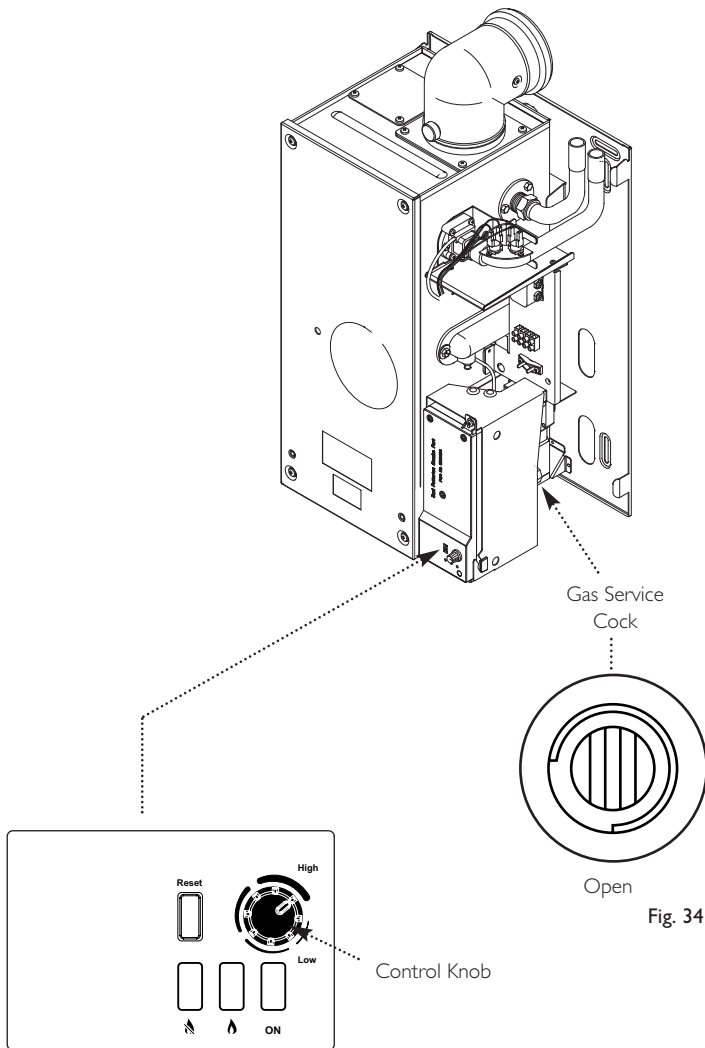

Fig. 35
7. Turn the boiler control knob fully clockwise to 'HIGH' (Fig. 35) and run the system and check the boiler for correct operation.